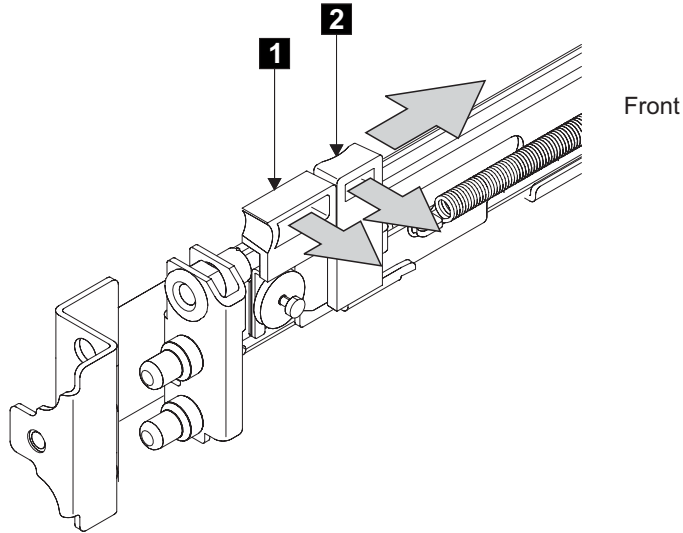

Figure 23. Opening the front latch-lock carrier assembly
3. Gently push the latch lock **2** (Figure 23) away from the rail as you move the latch lever **1** towards the far end of the rail. The latch-lock carrier assembly slides against the spring tension.